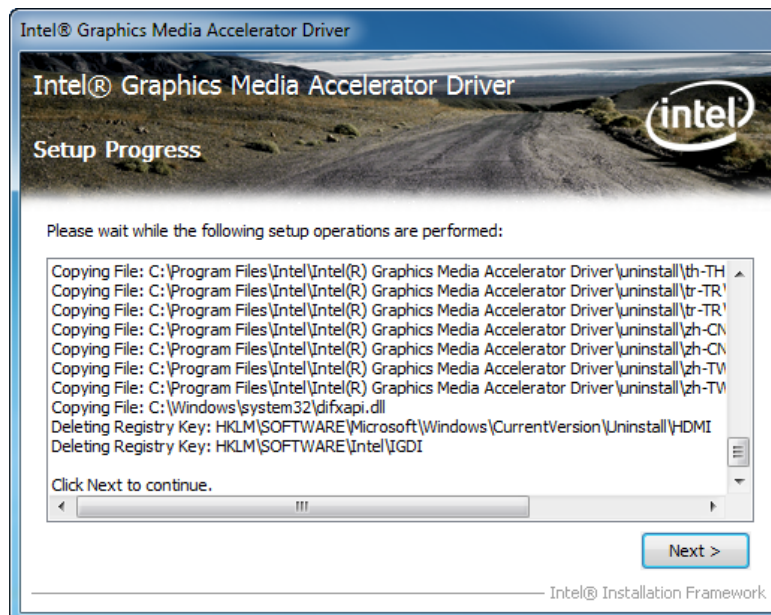

Figure 5-10: Graphics Driver Setup Operations
Step 10: Setup Operations are performed as shown in **Figure 5-10**.